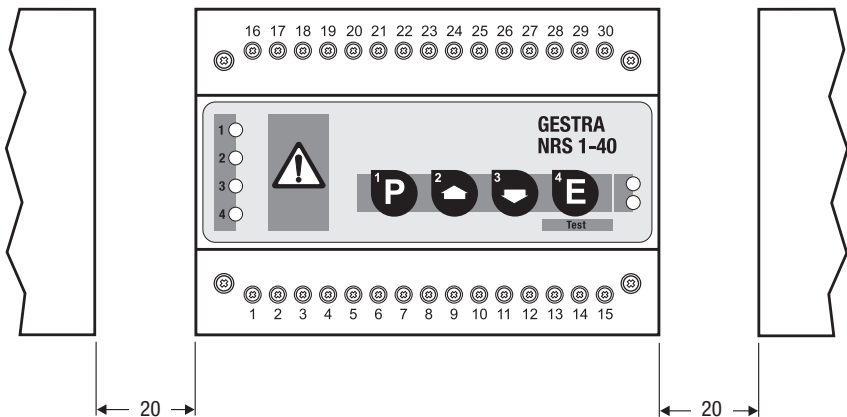

Fig. 7
2. Align switching controller, see **Fig. 7**